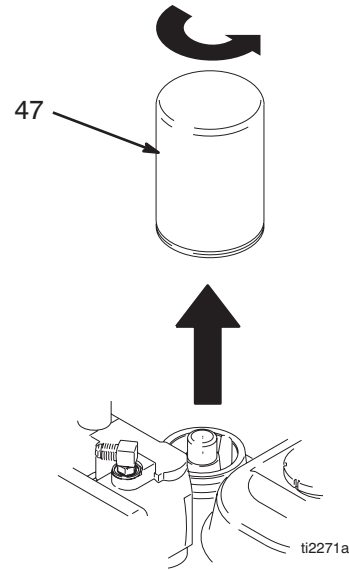

FIG. 6
1. Fig. 6. Place drip pan or rags under sprayer to catch hydraulic oil that drains out.
2. Remove drain plug (40). Allow hydraulic oil to drain.
3. Unscrew filter (47) slowly - oil runs into groove and drains out rear.